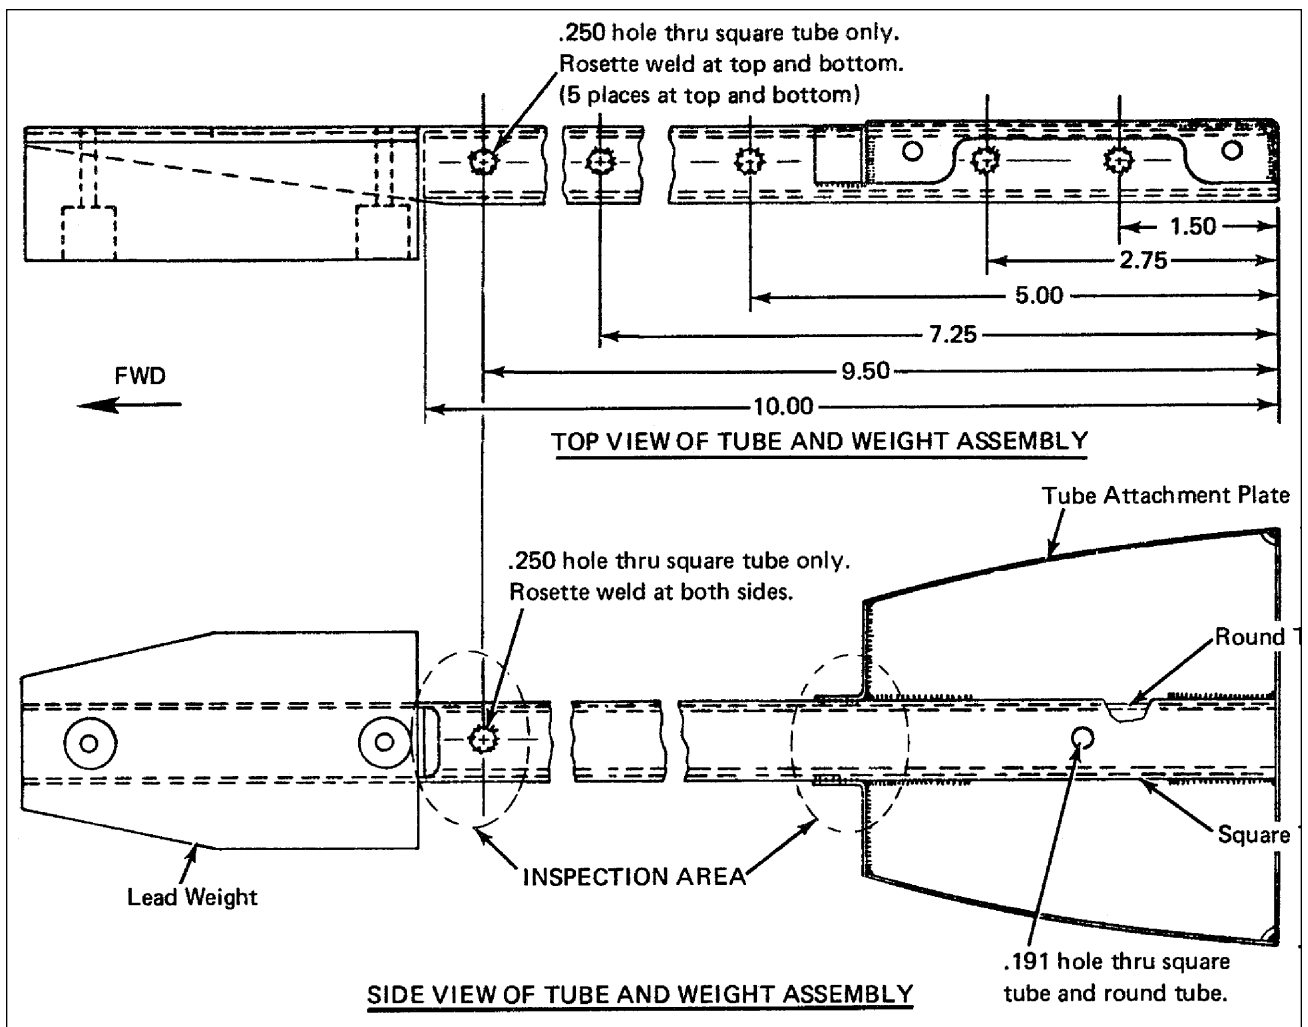

Figure 3-3. Stabilator Tip Tube And Weight Assembly
(5) STABILATOR TIP TUBE AND WEIGHT ASSEMBLY 100 HOUR INSPECTION. (See Figure 3-3.) In PA-23-250 Aztec “F” S/N’s 27-7654001 thru 27-7954121 only, inspect stabilator tip tube and weight assemblies for cracks as follows: